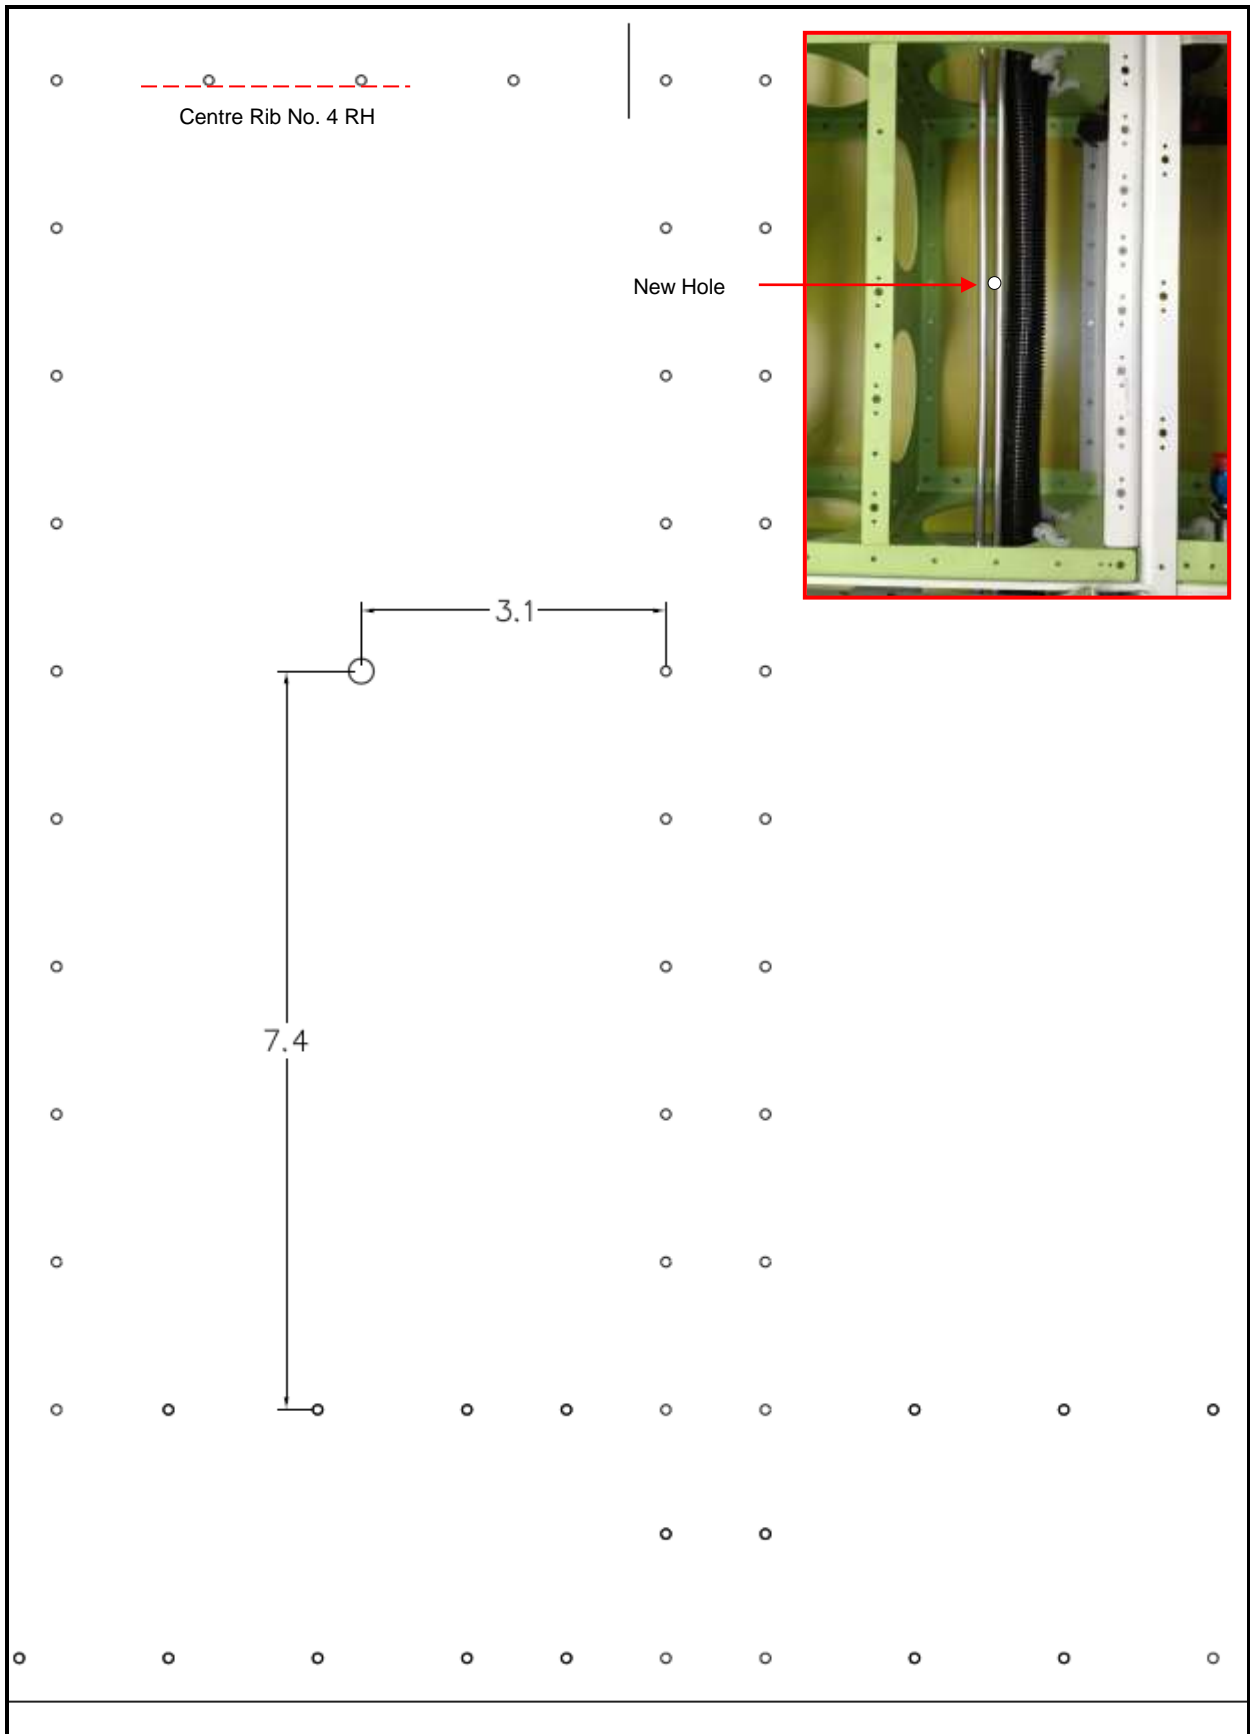

Figure 8: Hole 6
13. Drill ¼ in. hole through bottom skin located inboard of sump tank, between centre rib no. 4 (GA8-532023-125) and centre rib no. 5 (GA8-532013-127), Figure 8.